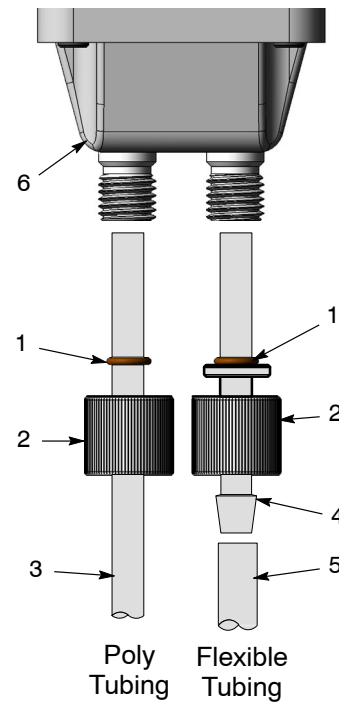

Figure 7 Powder Tubing Installations
1. See Figure 7. Remove a retaining nut (2) and O-ring (1) from the pump.
2. Slide the retaining nut over the poly tubing (3).
4. Push the poly tubing into the wear block (6) until it bottoms out.
1. See Figure 7. Remove a tube retaining nut (2) and O-ring (1) from the pump.
2. Install the O-ring onto the tubing adapter (4), until it is up against the adapter flange.
3. Install the end of the adapter into the wear block (6).
5. Push the flexible powder tubing (5) over the barbed end of the adapter.